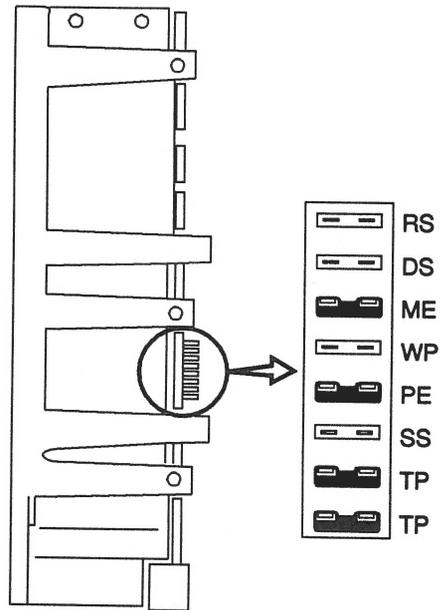

Figure 2-6 Configuration Jumper Settings
If the device address jumper settings are *not* the same, change them to match the settings in Figure 2-6. Use a needlenose pliers to install or remove jumpers.
- 1. Compare the drive configuration jumper settings to those shown in Figure 2-6.**
If the jumper settings are the same as in Figure 2-6, leave them as they are.